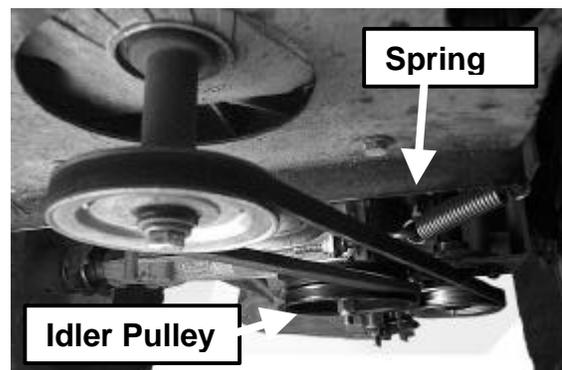

Figure 13: Lower Drive Belt
5. Remove lower belt the same way. Disconnect idler arm from spring, remove belt first from drive pulley at engine, then from intermediate shaft pulley. (Figure 13)